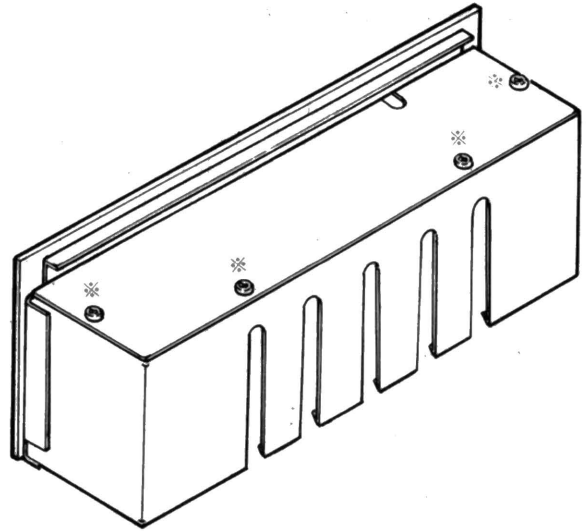

Fig. 2-1. Removal of Shield Plate
- c. Remove the four Phillips-Head screws (+RF3 ϕ ×6) that secure the shield plate. See Fig. 2-1.